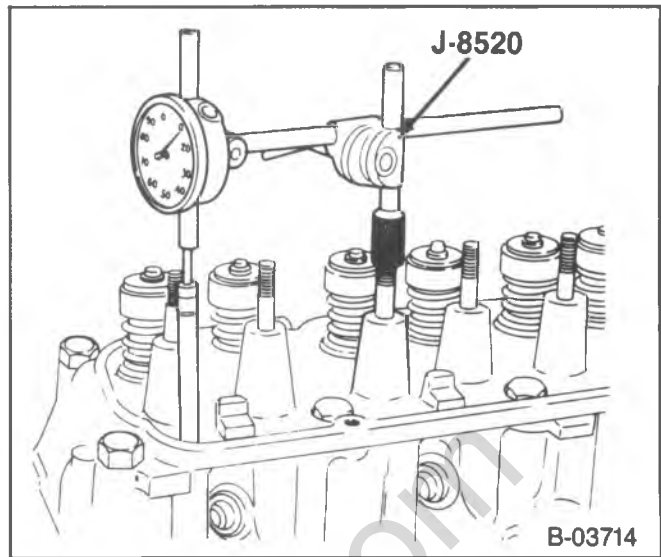

Figure 26—Checking Valve Timing Or Camshaft Lobe Lift
2. Install a dial indicator, along with J-8520 (figure 26). Turn the crankshaft until the #2 exhaust valve opens and the notch on the damper is aligned with the "0" mark on the timing tab.
2. Install a dial indicator (part of J-8520) (figure 26). Position the dial indicator so the plunger rests on the pushrod end, as shown, Make sure the pushrod is in the lifter socket.